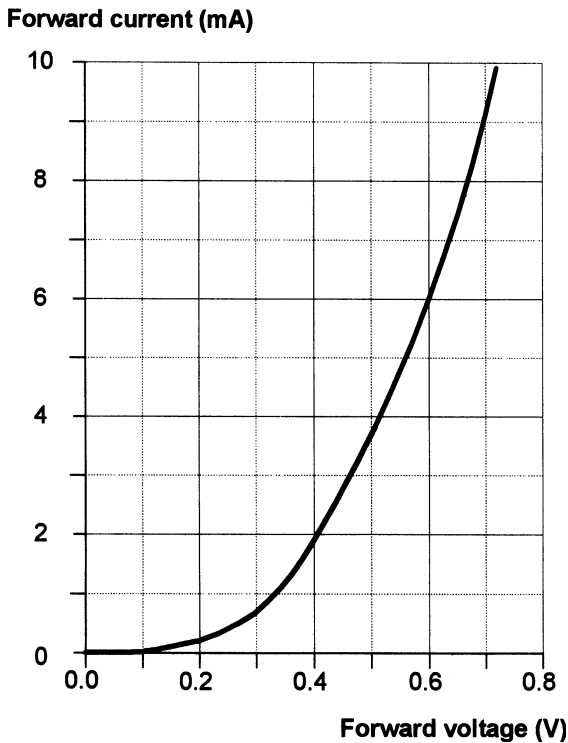

Figure A2.13
30. Figure A2.13 shows the characteristic of a diode. Determine the resistance of the diode when (a)  $V_F = 2\ \text{V}$  and (b)  $I_F = 9\ \text{mA}$ . [Page 84]